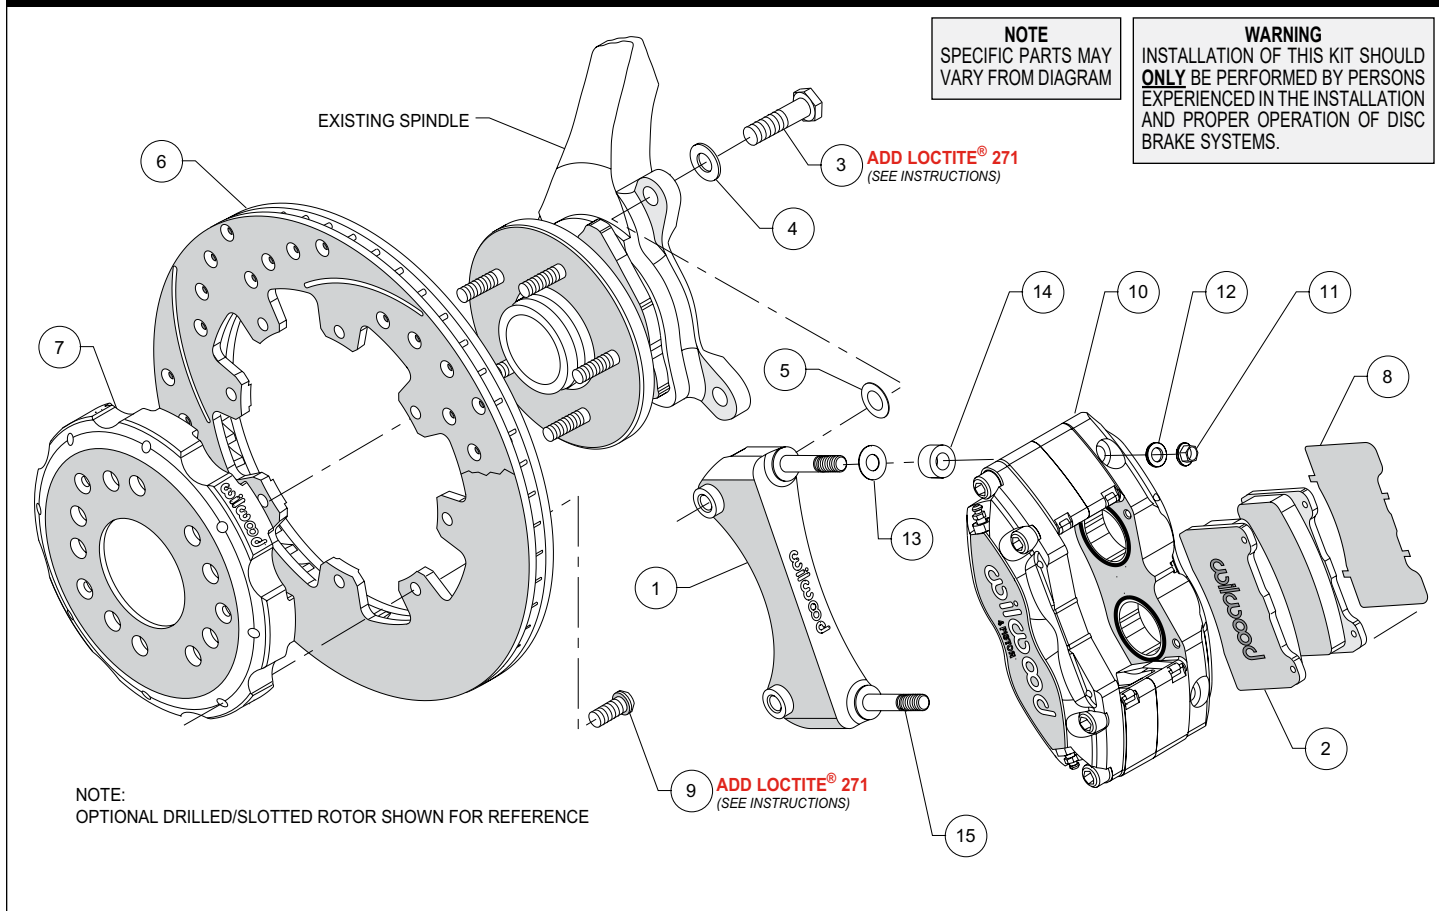

Figure 1. Typical Installation Configuration
- The caliper mounting bracket assembly (1) should be installed first with clean, dry threads on the mounting bolts. Install the bracket from the front side of the spindle by sliding bolts (3) through washer (4), as shown in Figure 1. Place shim (5) between the bracket and the front side of the spindle, Figure 1. The bracket must tighten squarely against the side of the spindle body. Inspect for interference from casting irregularities, machining ridges, burrs, etc. Use one thin shim (5) between the spacer and spindle during initial trial fitting.
- With the larger I.D. side of the rotor (6) facing away from the hat (7), attach rotor (6) to hat (7) using bolts (9) as shown in Figure 1. Using an alternating sequence, remove bolts (9) one at a time, apply red *Loctite*® 271 to the threads, and torque to 25 ft-lb. **NOTE:** *The rotor hat included in this kit is a multiple use part and has two 5 x 4.50" bolt circles. For correct use in this application, use the bolt circle with the smaller diameter (.484") stud holes. For further reference, check the inside face of hat assembly, one of the smaller diameter stud holes will have a circular reference mark engraved around its circumference. Do not use the larger diameter stud holes, as rotor and hat will not center correctly on hub.*
- NOTE:** *Please reference the caution statement at the beginning of the assembly instructions.* Install one shim (13) and spacer (14) over each pre-installed stud (15) on the radial mount bracket (1). Slide the caliper (10) in place over the studs and rotors and install the washer (12) and lock nut (11) to hold the caliper in place. Snug the lock nuts (11) and check that the rotor (6) is centered in the caliper (10). Add or subtract .016" shims (5) as necessary between the bracket (1) and the spindle to center the caliper (10).
- Remove the caliper quick-clip pad retainer from the caliper. Remove the protective material from the adhesive side of the anti-squeal shims (8) and place against the backing plate side of the brake pads (2) utilizing the contour of the backing plate as a guide. Secure material to backing plate by bending the four tabs over the edge of the backing plate. Slide the brake pads (2) with the shims into place. They should install easily without interference. Check that the outside radius of the brake pad is aligned with the outside diameter radius of the rotor face. Add or subtract shims (13) between the caliper and mount bracket to gain the proper alignment. Reinstall the quick-clip pad retainer.
- Once all clearances have been checked, remove the wheel, caliper, hat, and rotor from the spindle and hub. Secure the caliper mounting bracket (1) to the spindle using red *Loctite*® 271. Torque the bolts to 60 ft-lbs. Reinstall the hat and rotor assembly and again use several lug nuts to hold it in place. Reinstall the caliper and torque the caliper nuts (11) to 30 ft-lb.